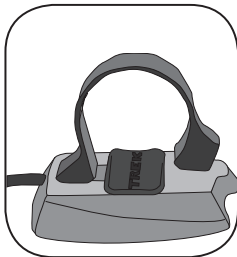

Figure 4- Clamp and friction pad in computer base
2. Insert the handlebar clamp into the back of the computer base (Figure 4) and slide it towards the front of the base.